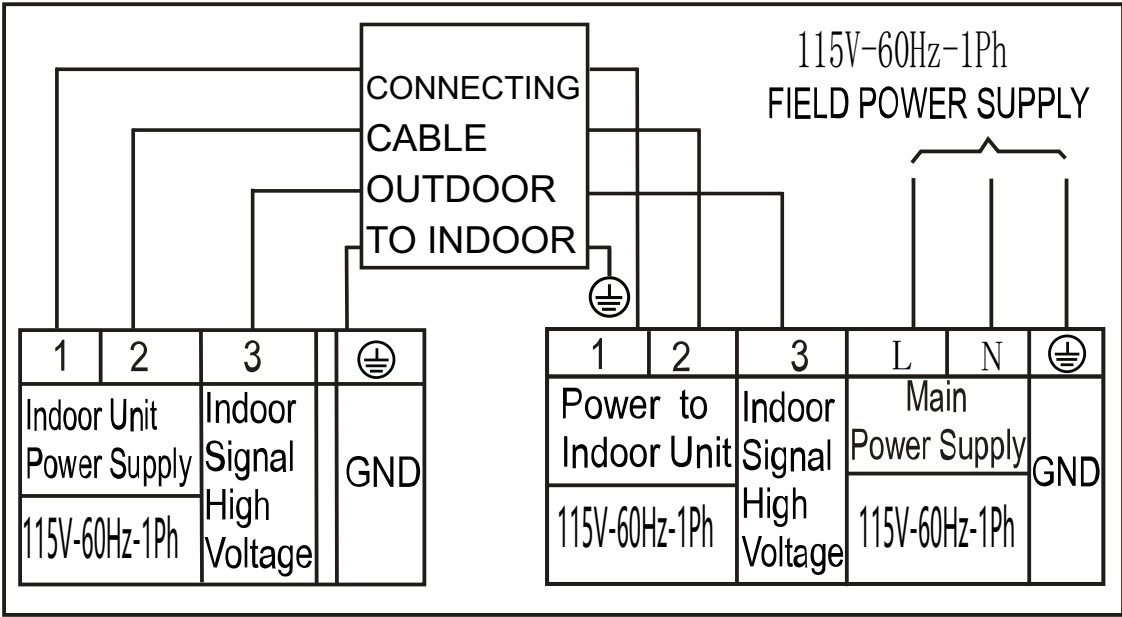

Fig. 25 —Connection Diagram (115V)
8. Connect the wiring from the outdoor unit per the connection diagram (see Figure 25 - Figure 26).